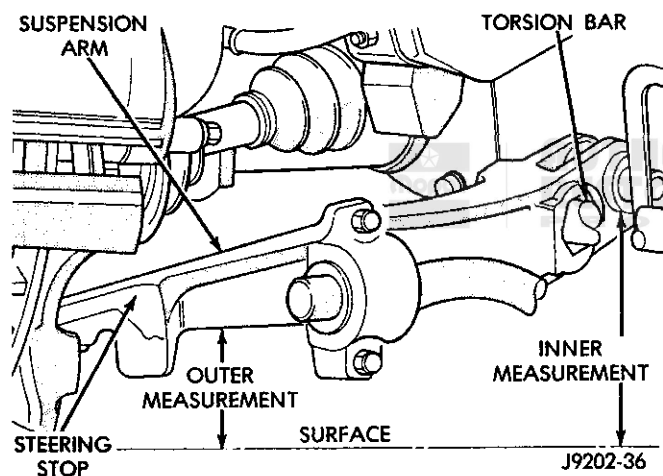

Fig. 2 Height Measurement (4WD)
(1) Clean the surface areas where the suspension arm height will be measured (Fig. 2).
(2) Measure the suspension arm height according to the following instructions:
- Inner measurement—from the floor surface to the underside of the pivot bores between the webs (Fig. 2)
- Outer measurement—from the floor surface to the underside of the rear edge inboard of the steering stop (Fig. 2)